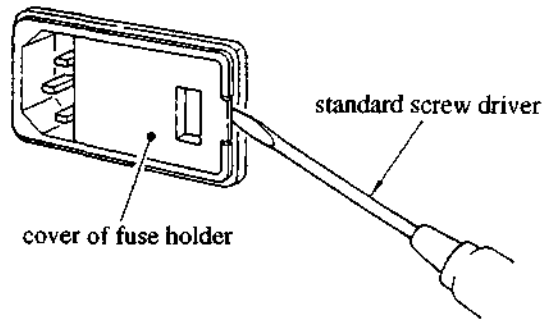

Fig. 3.5.1 Opening the fuse holder cover
- (1) Turn OFF the power.
- (2) Remove the power cord from the power connector.
- (3) Use a standard screwdriver to open the cover on the fuse holder, as shown in Figure 3.5.1.